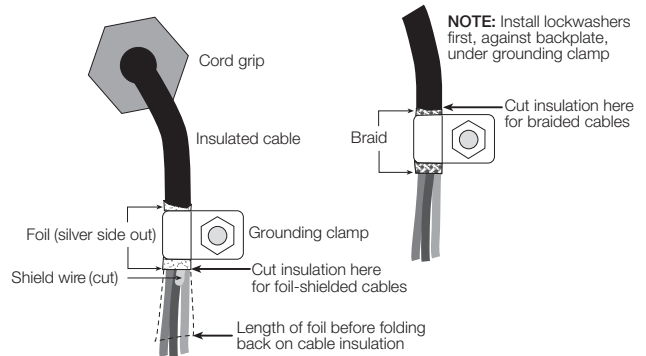

Figure 1-2. Grounding Clamp Attachment for Foil-Shielded and Braided Cabling
- For cables with foil shielding, strip insulation and foil from the cable half an inch (15 mm) past the grounding clamp (see Figure 1-2). Fold the foil shield back on the cable where the cable passes through the clamp. Ensure silver (conductive) side of foil is turned outward for contact with the grounding clamp.
- For cables with braided shielding, strip cable insulation and braided shield from a point just past the grounding clamp. Strip another half inch (15 mm) of insulation only to expose the braid where the cable passes through the clamp (see Figure 1-2).
- Route stripped cables through cord grips and clamps. Ensure shields contact grounding clamps as shown in Figure 1-2. Tighten grounding clamp nuts.